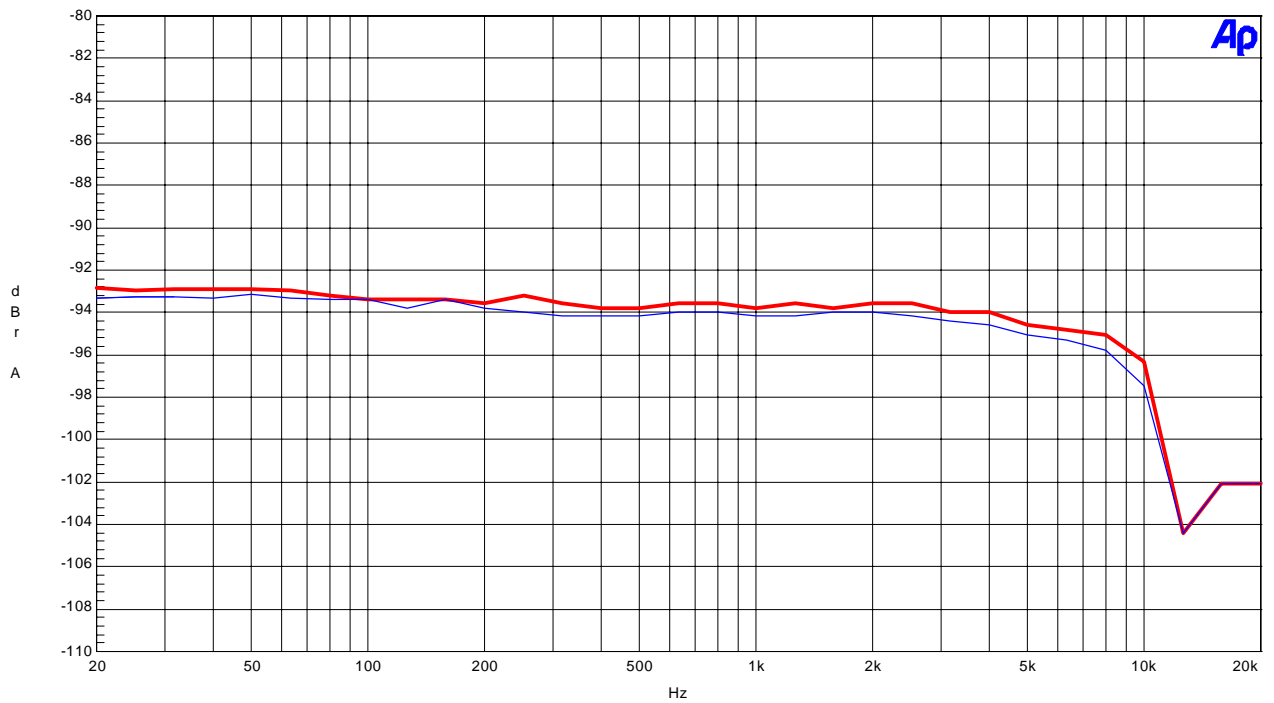

Figure 6. THD+N vs fin (Input Level=0dBFS)
- Figure 6. THD+N vs fin (Input Level=0dBFS)